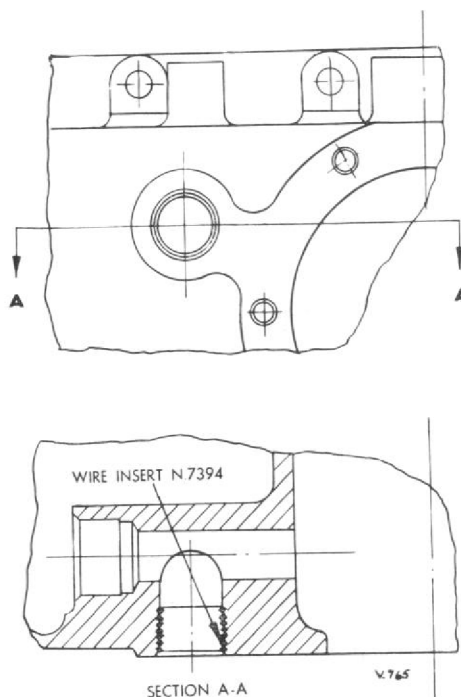

Fig. 4. Threaded hole for priming connection union in oil sump.
Any Ghost 48 Mk. 1 oil sump in which the threaded hole for the priming connection union, Fig. 4, has become damaged, may be repaired by fitting a Cross wire insert in accordance with these instructions. Reference must be made also to chapter 32, page 2, which specifies the tools required, and contains general information essential to this repair.
5. Remove any burrs from the edge of the hole, blow out the hole, and using the appropriate inserting tool, screw in wire insert Part No. N.7394 to the bottom of the thread, refer to Fig. 4. Break off, and remove, the notched tang of the insert.